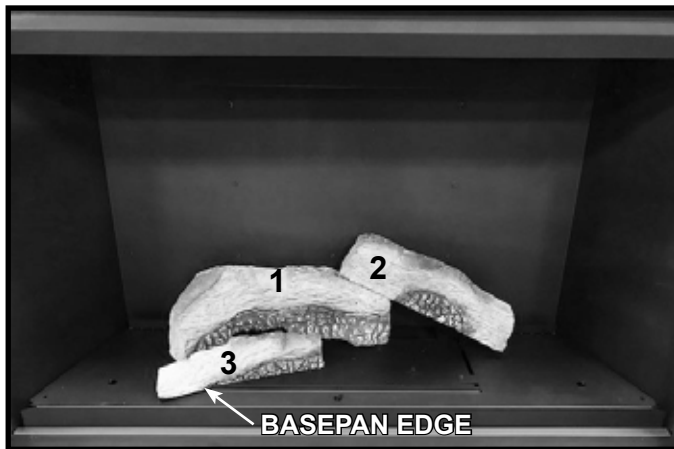

Figure 6. Install Log #3
4. **LOG #3:** Locate and install Log #3 by installing the "right" end of the log over the left burner pin and pressing "down" to engage log pin. Rotate Log #3 counterclockwise until it contacts the base pan edge as shown in Figure 6.